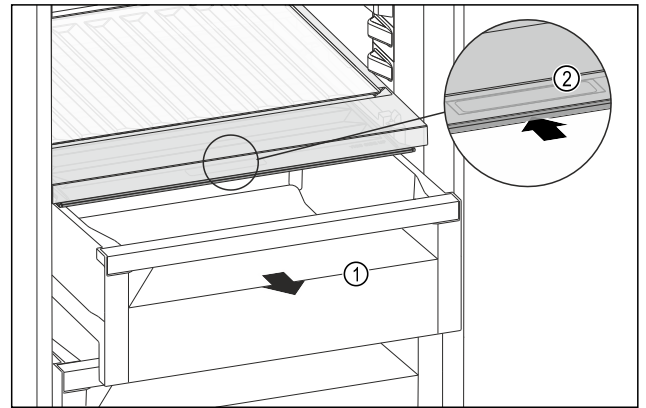

Fig. 114
- Pull out the drawer Fig. 114 (1).
- Grasp the recessed grip Fig. 114 (2) on the compartment lid and push the compartment lid backwards at the same time.